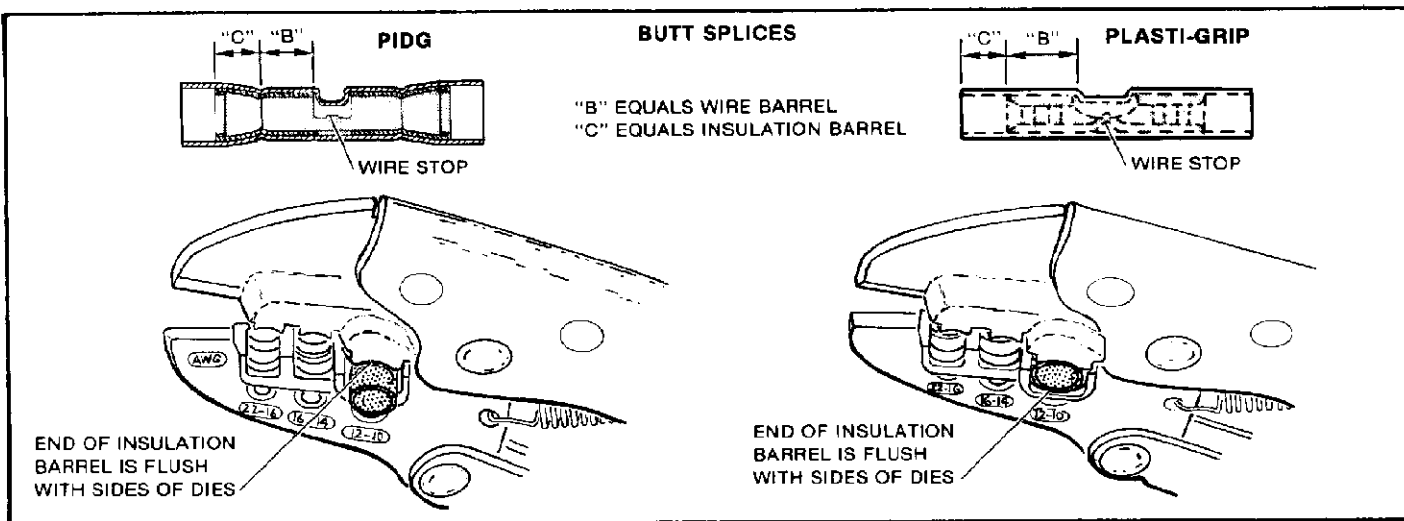

Figure 5
- To crimp other half of splice, remove it and reposition uncrimped half in tool as shown in Figure 5. Follow same procedure used to crimp first half of splice. If splice cannot be turned, turn tool around.